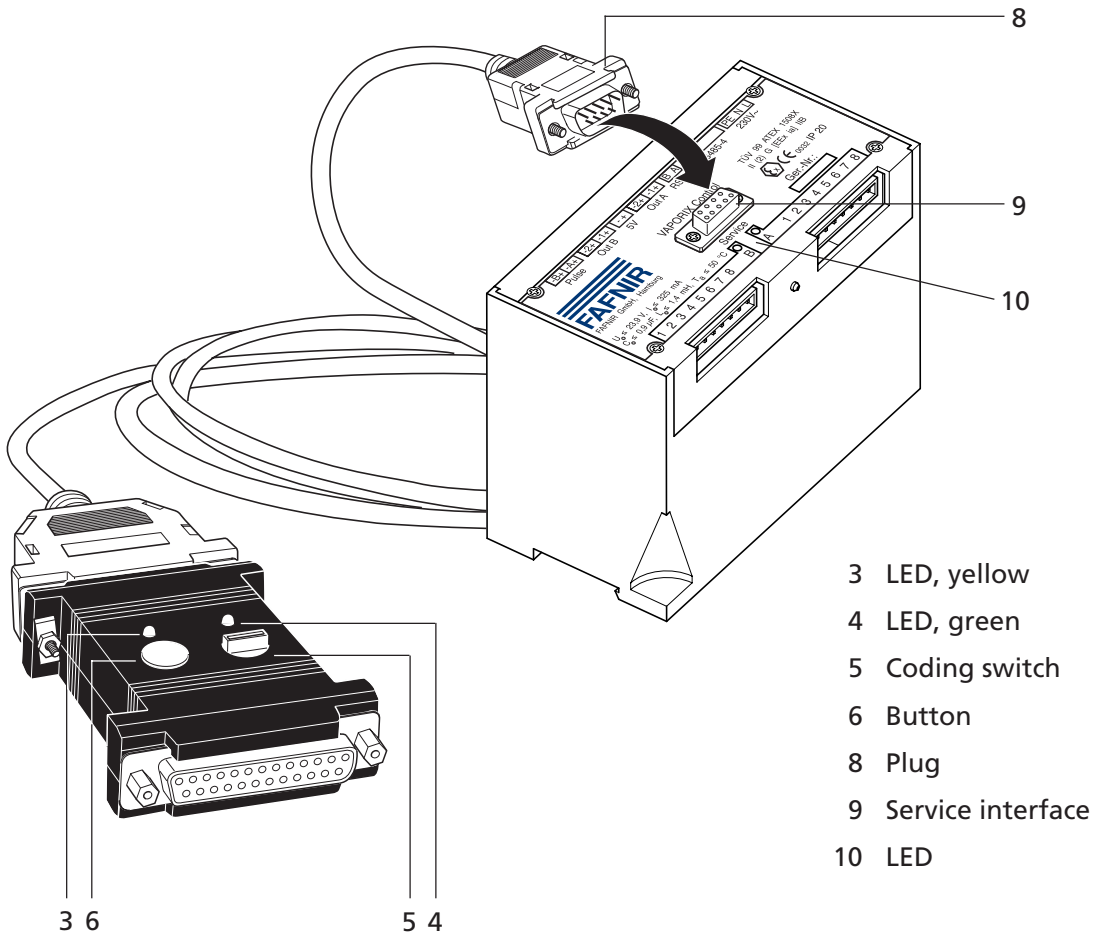

Fig. 2a: Connecting and logging in the VAPORIX service dongle
The green LED (4) on the service dongle lights up. The device is ready for operation. (See Fig. 2a, page 8)